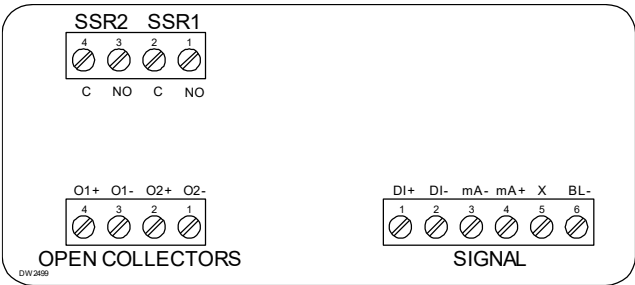
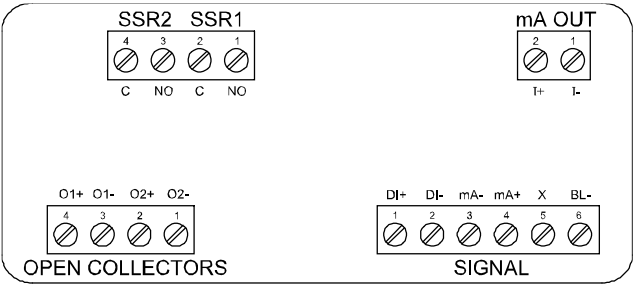

Figure 6. Connector Labeling for IDE20-#- HB -1
Figure 8. Connector Labeling for IDE20-#HB -3
Relay connections are made to a four-terminal connector labeled SSR1 and SSR2 on *Figure 6. Connector Labeling for* and *Figure 8. Connector Labeling for* on page 40. Each relay's C terminal is common only to the normally open (NO) contact of the corresponding relay.